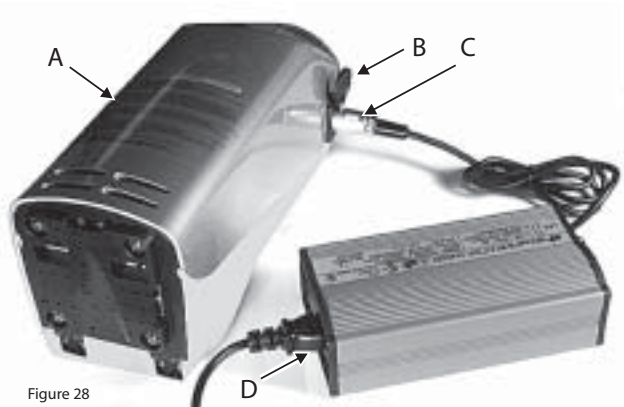

Figure 28
2. Remove the battery pack as described in section 6h and place the battery pack on its back (figure 28, A) in the charging area described in section 6b.
5. Slide the cover (figure 28, B) away from the battery charge port on the left side of the battery pack.
6. Plug the charger output plug (figure 28, C) into the charge port on the battery pack.